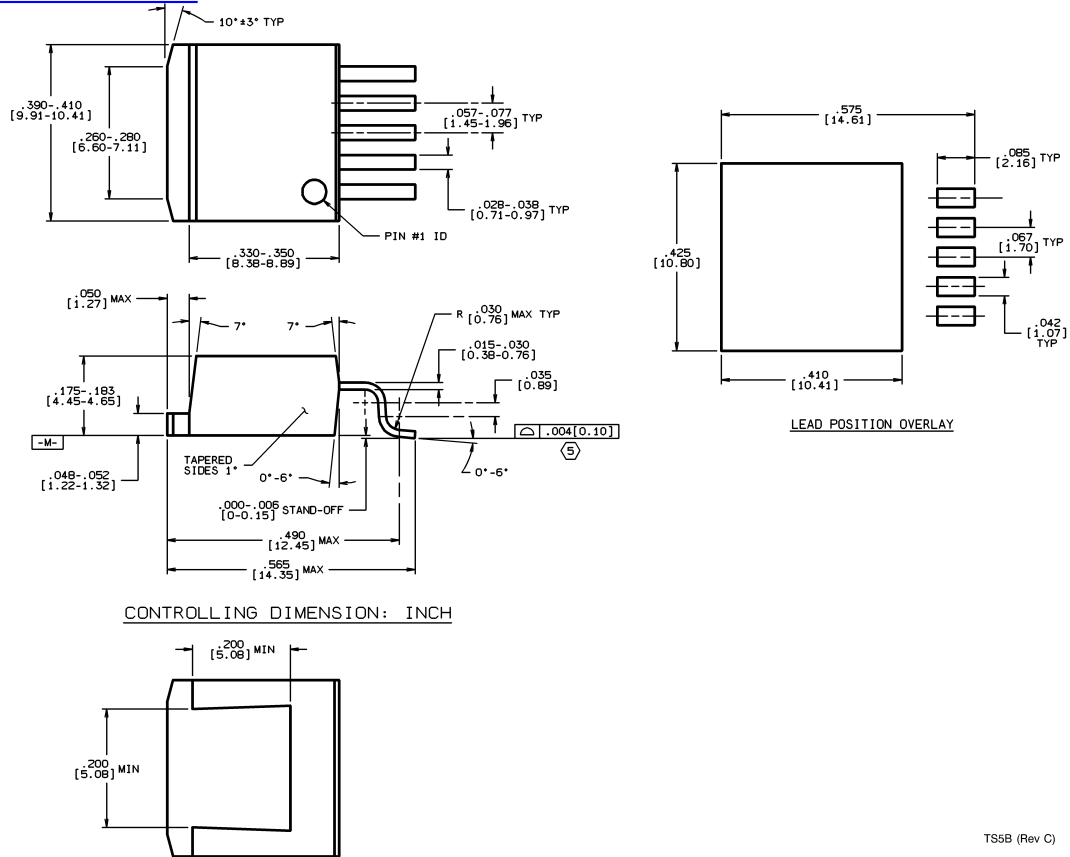

**FIGURE 2. Maximum power dissipation vs ambient temperature for TO-263 package**
*Figure 2* shows the maximum allowable power dissipation for TO-263 packages for different ambient temperatures, assuming  $\theta_{JA}$  is 35°C/W and the maximum junction temperature is 125°C.